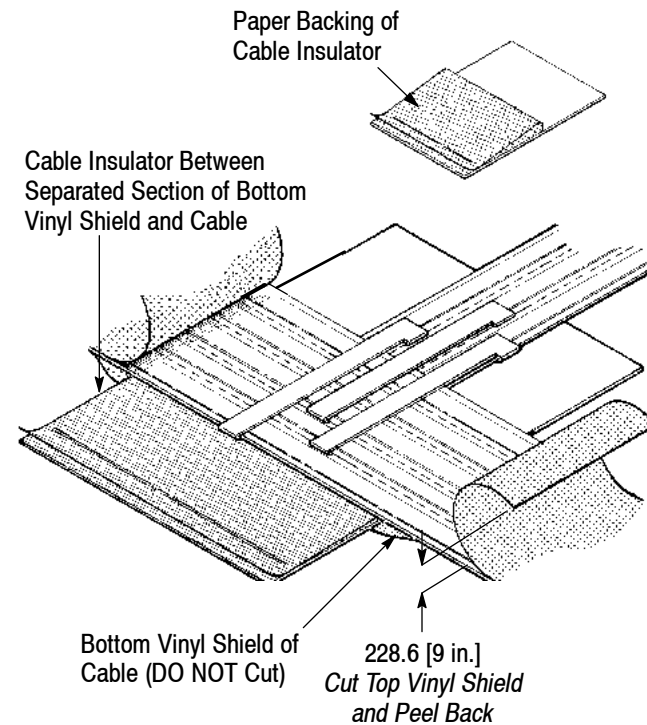

Figure 2
1. Cut the top vinyl shield of the cable and peel it back about 228.6 mm [9 in.] from each side of the cut line (a total of 457.2 mm [18 in.]). Separate the bottom vinyl shield of the cable from the cable for 457.2 mm [18 in.]. *DO NOT cut the bottom vinyl shield.* See Figure 2.